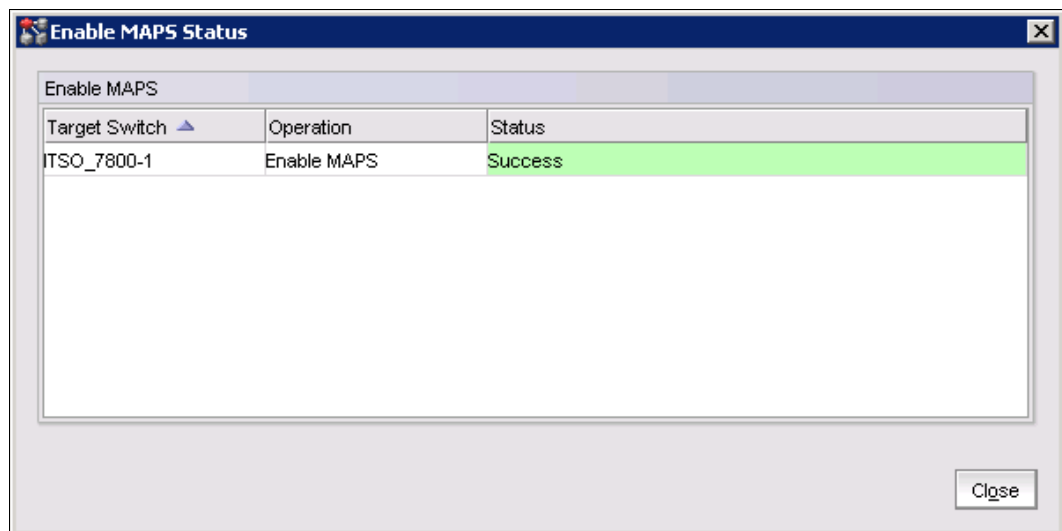

Figure 7-10 Enable Maps Status window
4. Click **OK** to start the MAPS enable process. A status panel is displayed when it is complete as shown in Figure 7-10.